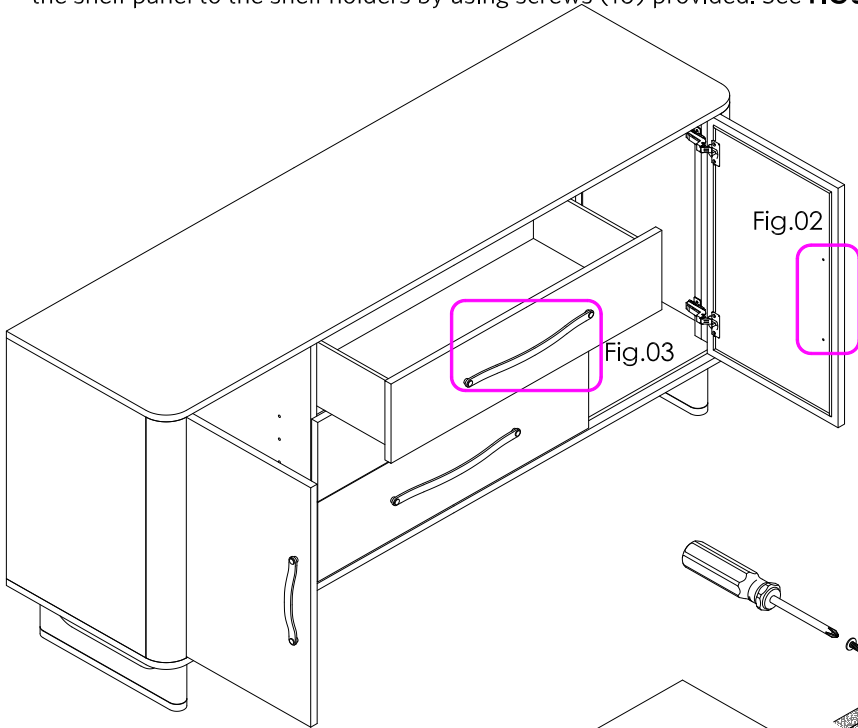

FIGURE 03
- Similar step 3, attach the Drawer handle (6) to the Drawer front by using the Phillips head bolts (8) provided as in **FIGURE 03**.